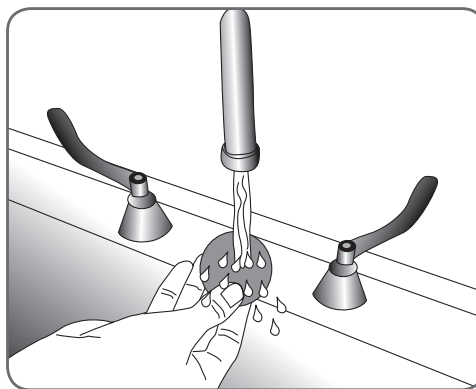

Figure 8-26: Wetting the L300 cloth electrodes.
2. Wet the L300 cloth electrodes with tap water until saturated. See Figure 8-26.